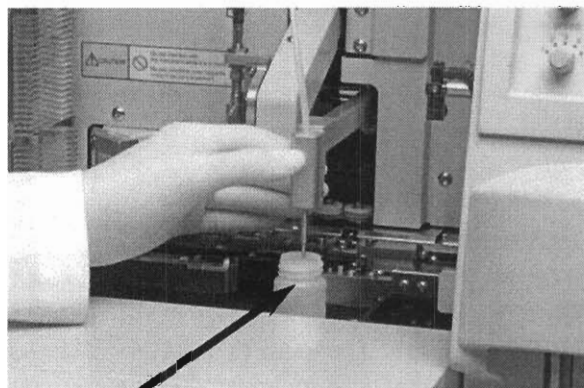

Figure 2-1
3. Open the cover and gently raise the mounting medium dispenser to remove the metal tray, nozzle reservoir, and plastic waste tray. Place the waste bottle, provided in the accessories, underneath the mounting medium nozzle ① (Fig. 2-1). This bottle is used to collect solvent, which will be forced through the line during priming. The solvent waste should be discarded after completion of the priming process or when it nears the rim of the waste bottle to prevent overflow.